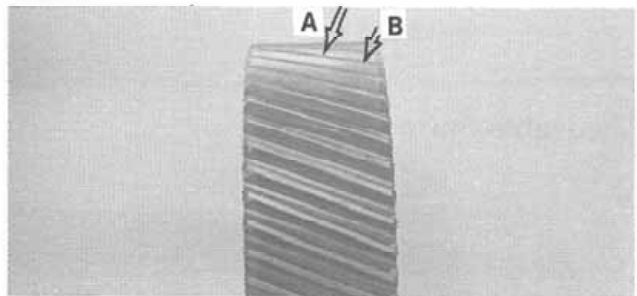

Figure 9:
Gears that have highly polished teeth are generally acceptable. However, if polishing varies from bright (A) to dull (B, Fig. 9), misalignment should be suspected. It would be advisable to test the fit of the gear on its shaft and proper bearing adjustments at reassembly.